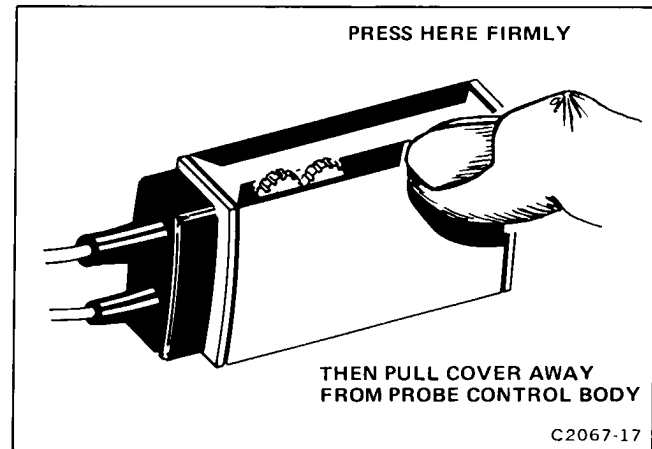

Figure 4-5. Probe control body cover removal.
- a. Remove the probe control body cover (see Figure 4-5).